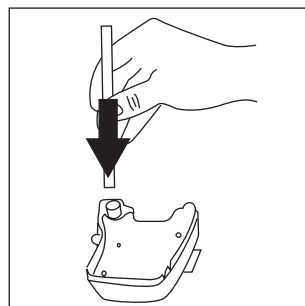

Fig.20
- Make sure the intake tube is well inserted into the rubber washer (fig. 20), then replace the milk container lid.